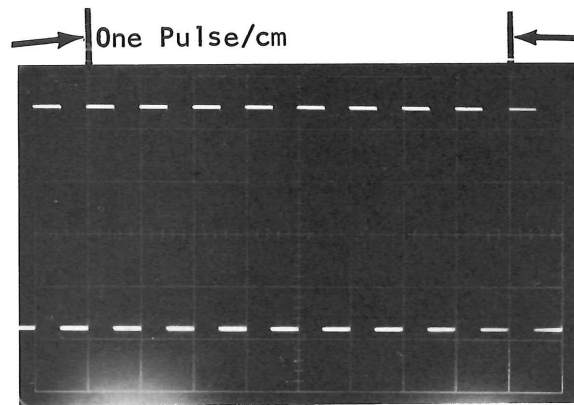

Figure 4
4. Adjust SWP CAL. (R180W - see Figure 4) for 1 pulse/cm as viewed on the middle 8 centimeters.